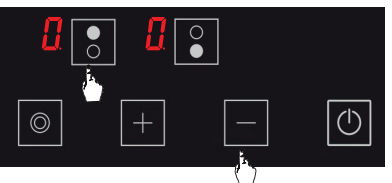

Figure 18
2. Press upper hob selection key (top left) and minus key (bottom right) simultaneously. (see Fig. 18) You shall hear a short warning signal at this time. Then, remove your fingers from the stove control panel.